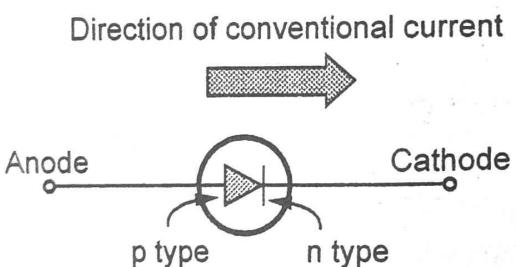

Fig. Q.3.1 Symbol of a diode
- Its symbol is shown in the Fig. Q.3.1. The arrowhead in the symbol indicates the direction of conventional current which can flow when an external voltage is applied in a specific manner across the diode.